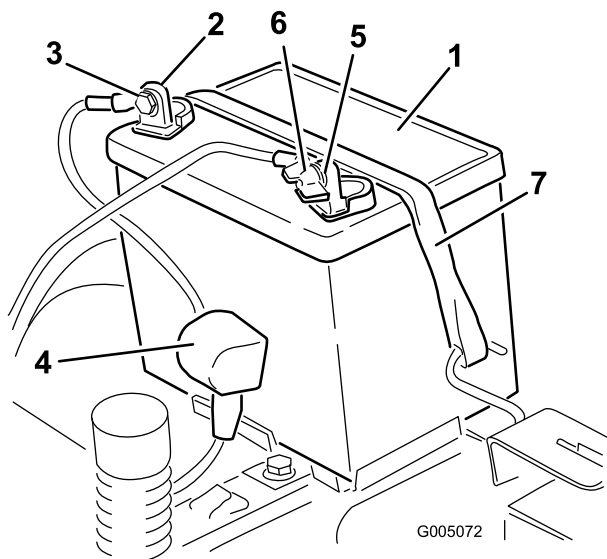

Figure 37
4. Disconnect the negative (black) ground cable from the battery post (Figure 37). Retain all fasteners.
5. Slide the rubber cover up the positive (red) cable. Disconnect the positive (red) cable from the battery post (Figure 37). Retain all fasteners.
6. Remove the battery hold-down (Figure 37) and lift the battery from the battery tray.
1. Position the battery in the tray with the terminal posts toward the operating position (Figure 37).
5. Secure the battery with the hold-down (Figure 37).